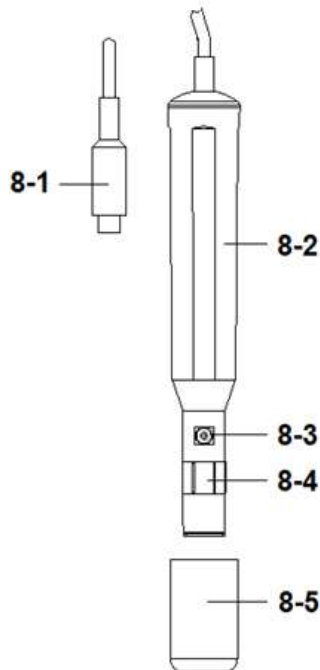

Fig. 5
- 1) Prepare the Oxygen Probe (optional, OXPB-11), install the " Probe Plug " (8-1, Fig. 5) into the " DO Socket " (3-14, Fig. 1).
- 1) Install the " Probe Plug " (8-1, Fig. 5) into the " DO Socket " (3-14, Fig. 1).
- 5) **When not use the probe, should insert the " Probe head " into the " Probe protection cover " (8-5, Fig. 5)**